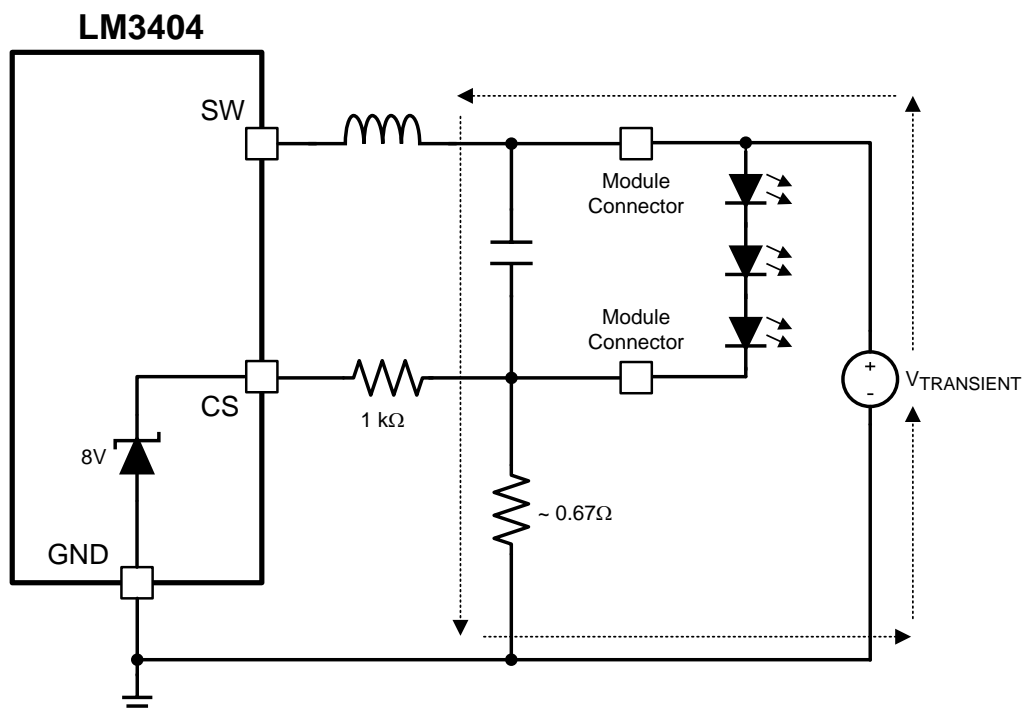

Figure 22. CS Pin, Transient Path With Protection
When hot swapping in a load (that is, test points, load boards, LED stack), any residual charge on the load will be immediately transferred through the output capacitor to the CS pin, which is then damaged as shown in Figure 22. The EOS event due to the residual charge from the load is represented as $V_{\text{TRANSIENT}}$.
From measurements, we know that the 8-V ESD structure on the CS pin can typically withstand 25 mA of direct current (DC). Adding a 1-k Ω resistor in series with the CS pin, shown in Figure 22, results in the majority of the transient energy to pass through the discrete sense resistor rather than the device. The series resistor limits the peak current that can flow during a transient event, thus protecting the CS pin. With the 1-k Ω resistor shown, a 33-V, 49-A transient on the LED return connector terminal could be absorbed as calculated by: